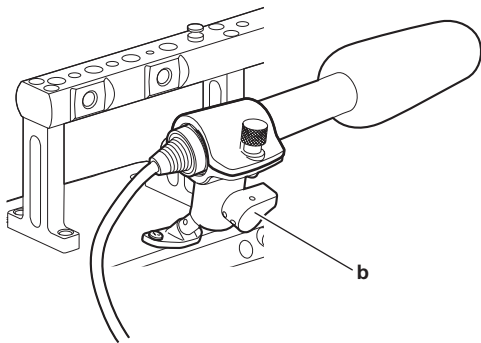

Fig. 3
- 3 Loosen the lock lever (b), adjust the angle of the microphone, and tighten the lock lever. (Fig. 3)